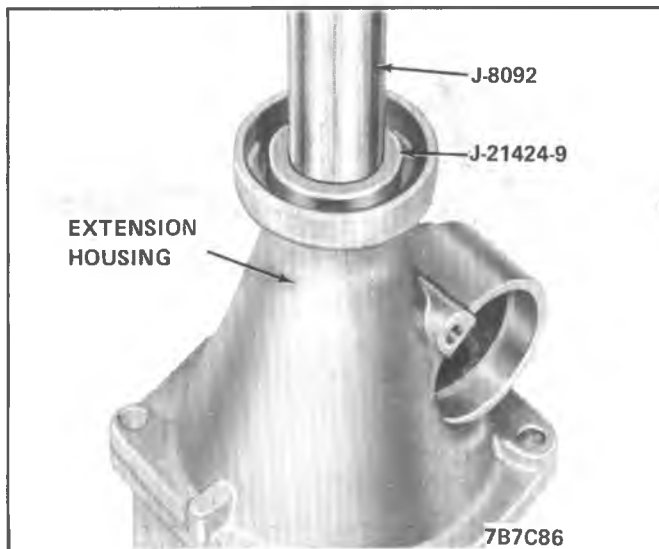

Figure 7A3-171 Installing Extension Housing Bushing
1. Remove extension housing bushing using screwdriver to collapse bushing. See Figure 7A3-170.
1. Install extension housing bushing using drive handle J-8092 and Bushing Tool J-121424-9. See Figure 7A3-171.